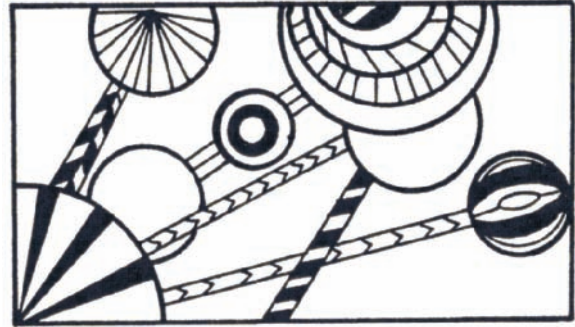

Figure 7.6.
2. Proceed with steps 2–5 from the procedure in Level One. (See Figure 7.6.)